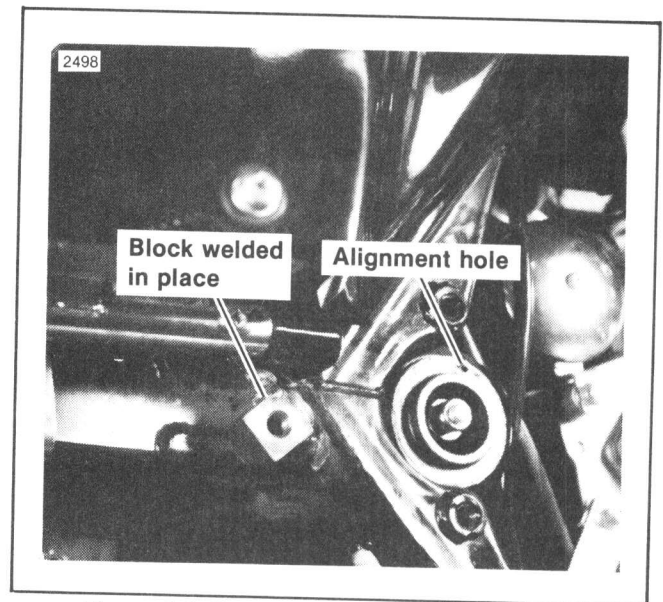

Figure 5-8. Frame Mounting Block Welding
- Position rear mount assembly (1) so roll pin in rear mount enters alignment hole in rubber mount of pivot shaft (see Figure 5-8) and groove in frame mounting block aligns with frame tube. Remove plug from left passenger footrest bracket and check that the left rubber mount of the pivot shaft did not move out of position.
- Position frame mounting block (28) so groove in block mates with frame tube and tighten bolt to hold it in position.
18. Weld inner edge of mounting block to frame. It may be necessary to tilt the motorcycle to the right to weld the inner edge of the block. Figure 5-8 shows block welded in place.